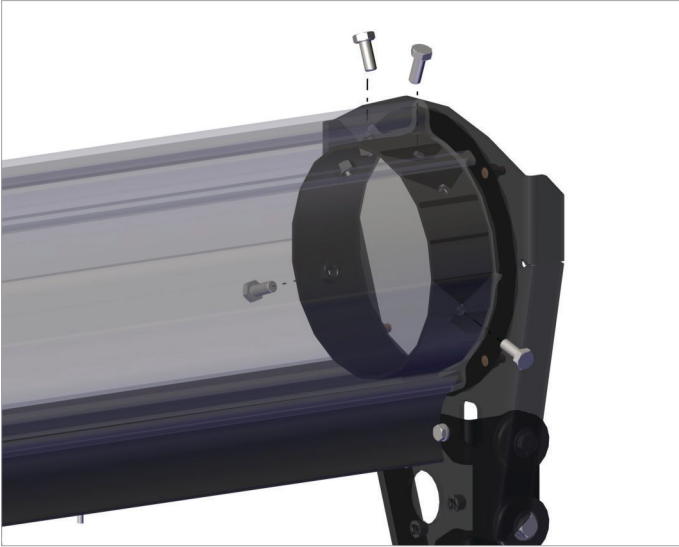

Fig. 5.3.5 Mounting the cover plate
- Mount the CRS cover plate to the other end of the rail, and secure with 6x M8x20 bolts and 6x M8 washers using wrench 13 (0,5 in.). Refer to fig. 5.3.5.